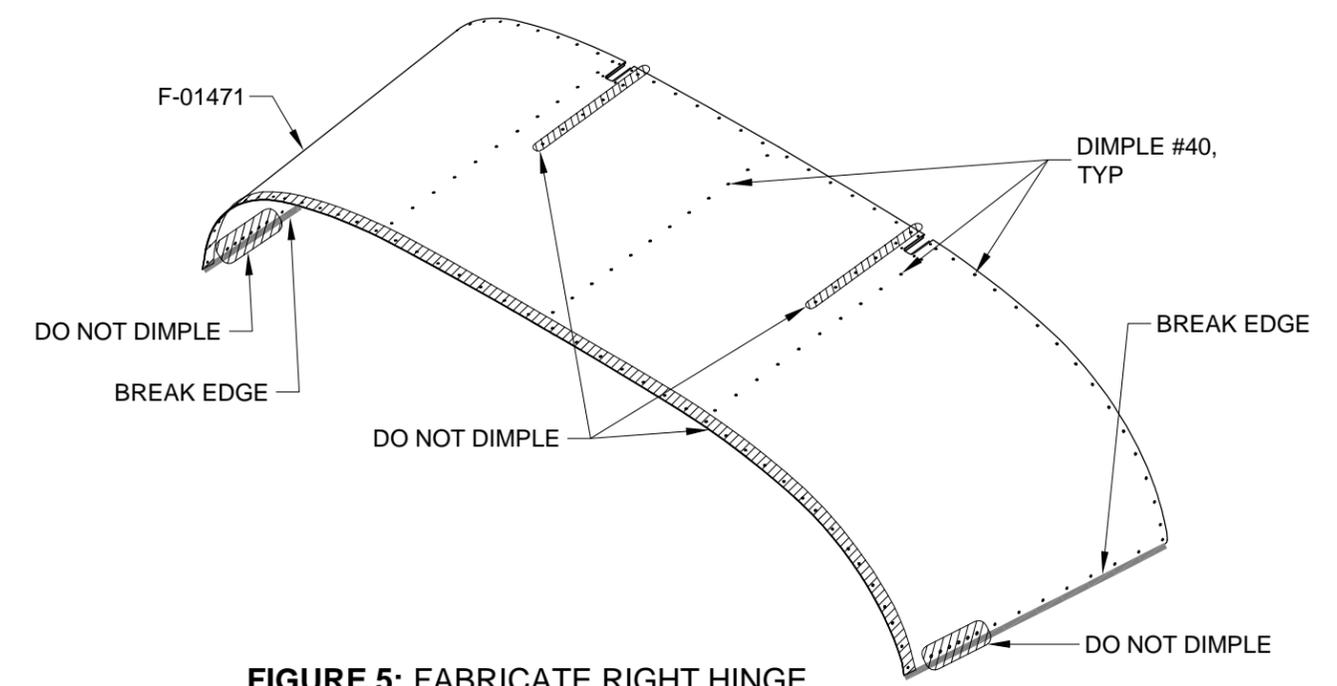

FIGURE 5: FABRICATE RIGHT HINGE
Step 7: Break the side edges of the F-01471 Forward Top Skin as shown in Figure 5.
Step 8: Dimple all of the holes in the F-01471 Forward Top Skin except those indicated in Figure 5.